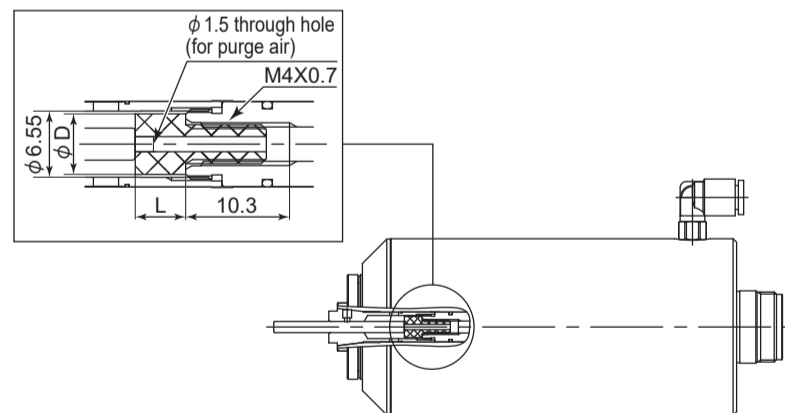

Fig. 8
If you need to adjust the tool entry length, please fabricate a stopper by yourself. To fabricate the stopper, use the screw (M4 × 0.7 l 10.3) inside the spindle and consider the dimension (φD) and required adjustment length (L) according to the tool shank diameter with reference to Fig. 8.